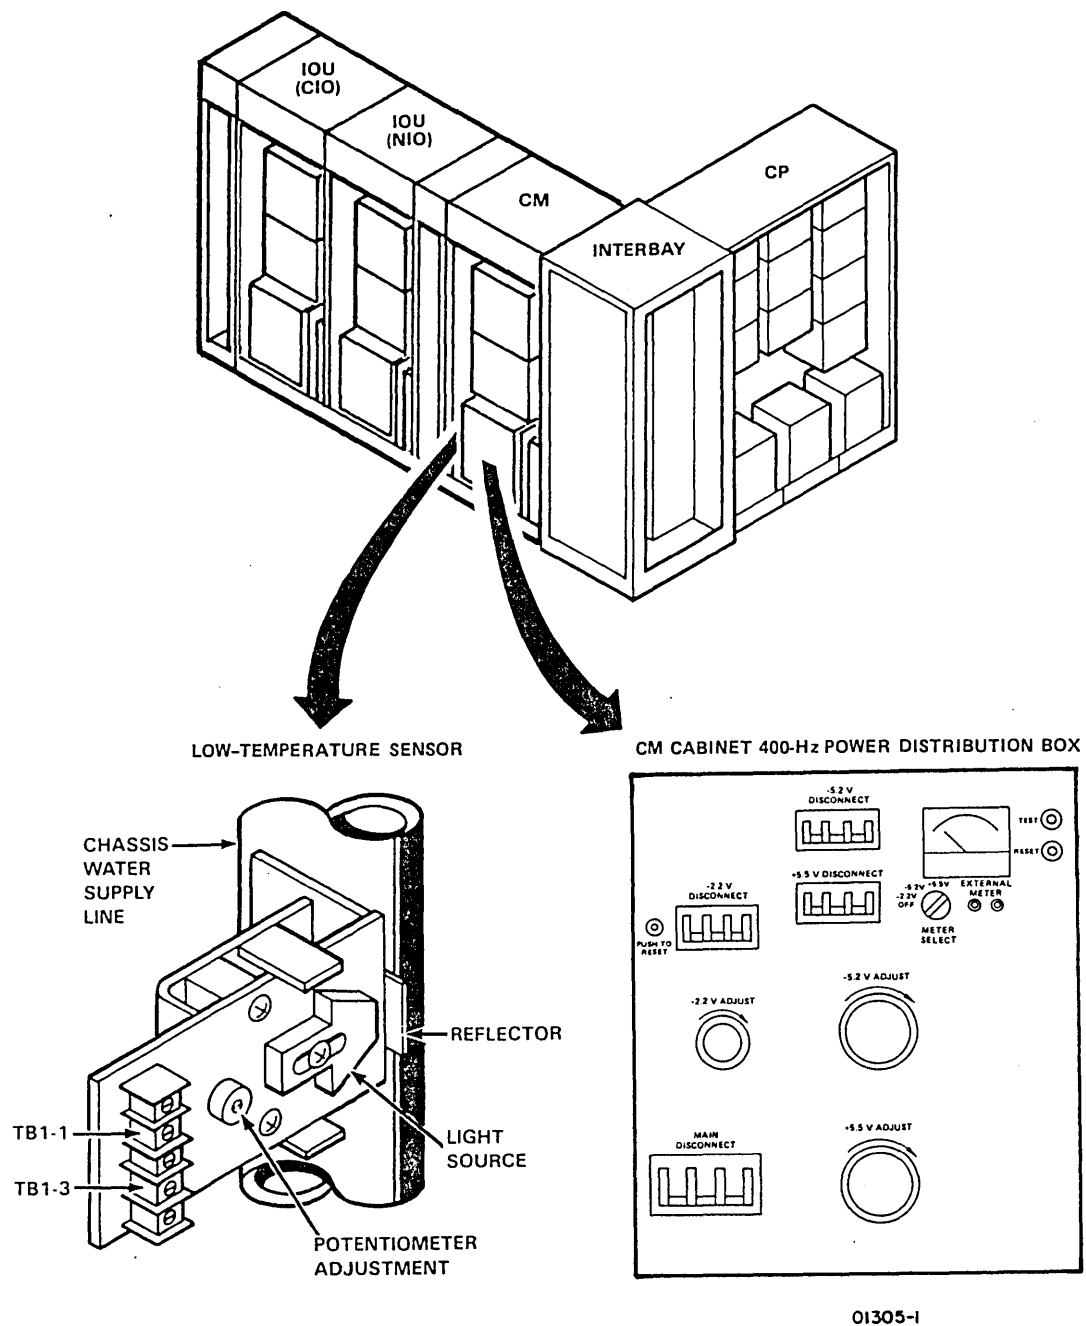

Figure 3-52. CM Power Controls and Adjustments
- ___ 2. Set following circuit breakers and voltage adjust knobs on CM power distribution box (figure 3-52) as follows: